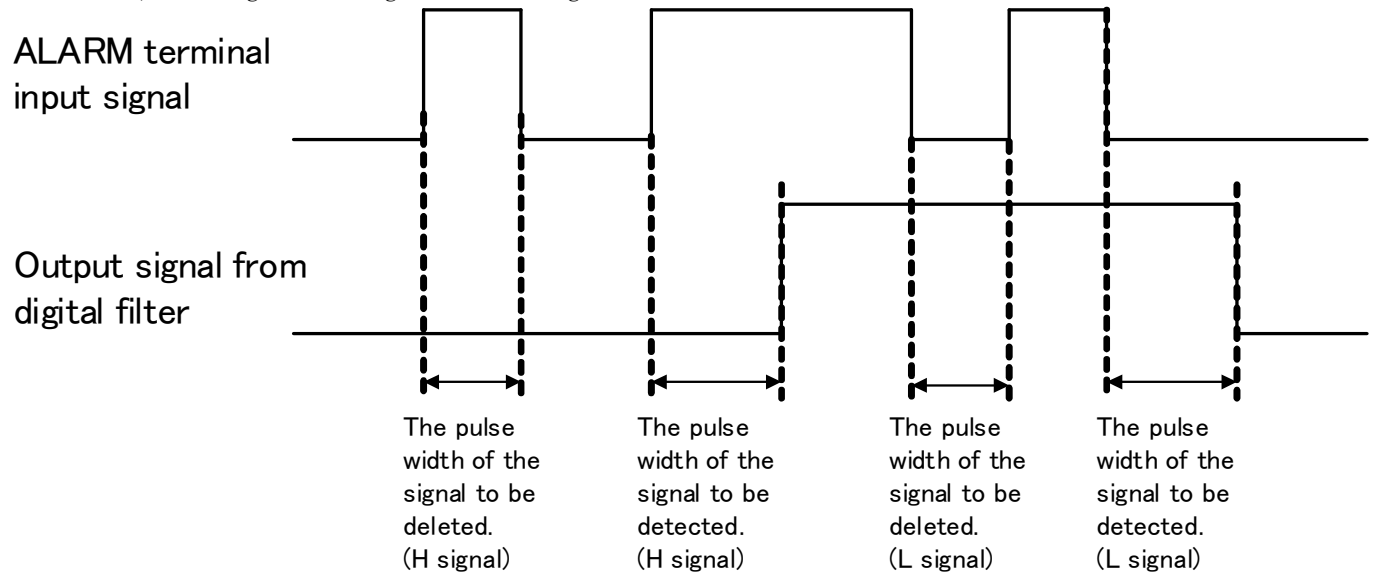

Fig. 9-j Input elimination pulse width (with a filter) and input detection pulse width (with a filter)
* The input detection pulse width (T_{wmin}) means the width of pulses appearing in the output after passing the digital filter, and input elimination pulse width (T_{wmax}) means the width of pulses eliminated by the digital filter (Fig. 9-j).